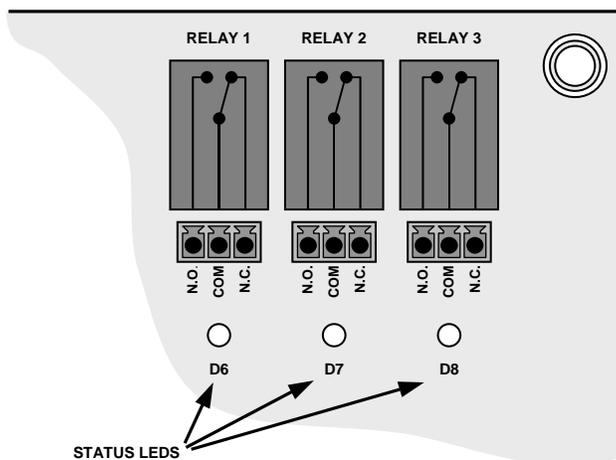

Figure 3-10 Alarm Output Relays
- ¹ Located just below each relay connector (see Figure 3-10)